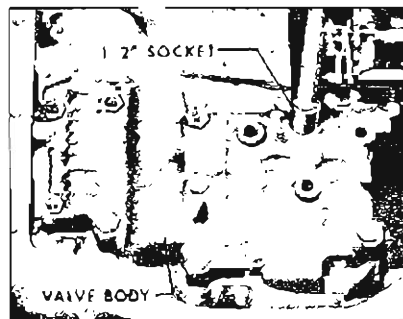

Figure 5-338
5. Install eleven (11) valve body to case retaining bolts. Torque bolts to 8-11 ft. lbs. See Figure 5-338.